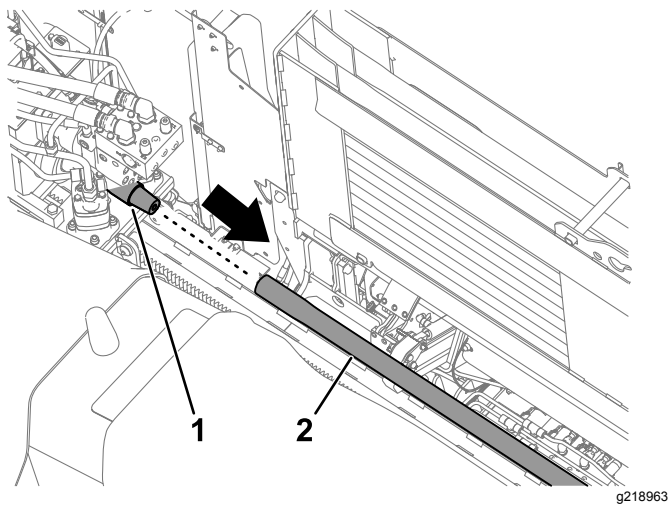

Figure 65
7. Engage the exit side lockout system and rotate the drill spindle clockwise and move the carriage slowly forward to insert the spindle into the female end of the pipe (Figure 65).
9. Rotate the drill spindle clockwise and move the carriage slowly forward to insert the spindle into the female end of the pipe (Figure 65).